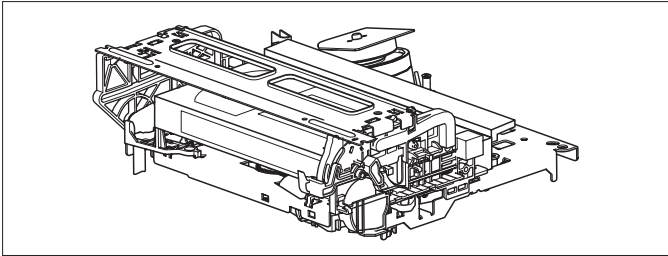

Fig. 1-1a
- (1) Unplug the power cord plug from the power outlet.
- (2) Refer to the disassembly procedure of the VCR and perform the disassembly of the major parts before removing the mechanism assembly. (See Fig. 1-1a.)